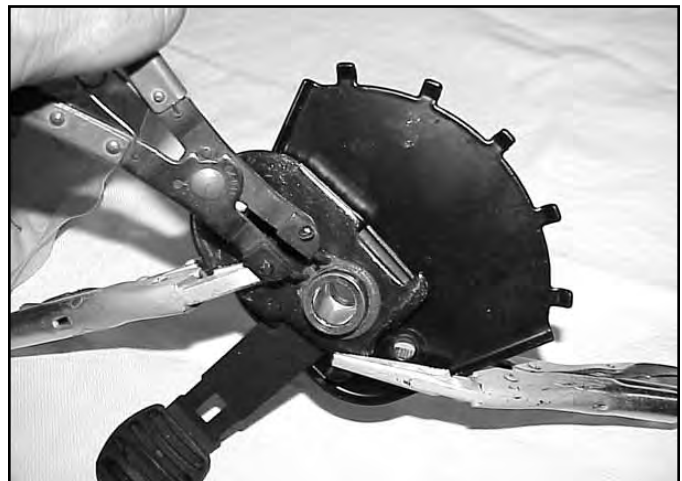

Fig 048 MVC-478
11. To disassemble the pivot arm assembly, compress the components with two clamps or locking pliers (Fig. 048).